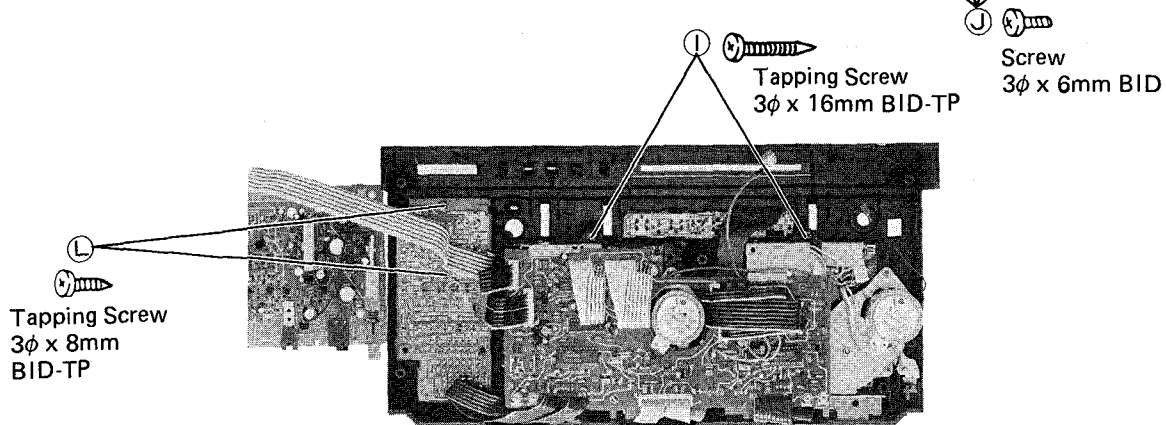

Figure 7
1. Remove two screws (L), and the equalizer P.C. Board will be removed. (Figure 7)